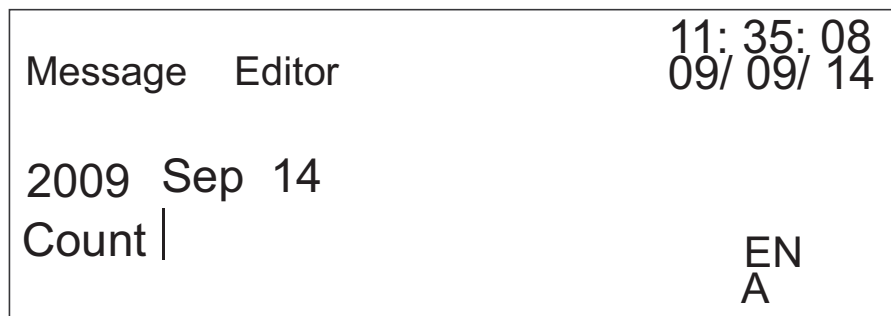

Figure 4-30: Insert Character
- 6 Press  to insert the letter 'C' to the current position. Press  to switch between the lowercase and uppercase input styles. Press ,  and  to insert 'o', 'u', 'n', and 't' into the message, as shown in the Figure 4-30.